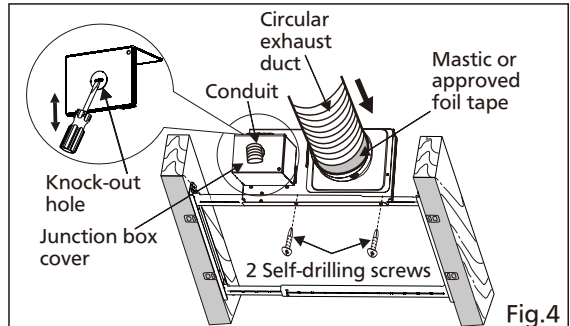

Fig.4
4. Remove junction box cover and secure conduit or stress relief to junction box knock-out hole. (Fig.4)
5. Install the circular exhaust duct and secure it with clamps, or ties and seal it with mastic or approved foil tape. A 3 or 4 inch circular duct is needed to connect to the relevant part of adaptor. (Fig.4)
6. Install the adaptor to Flex-Z Fast™ bracket by using 2 self-drilling screws. (Fig.4)